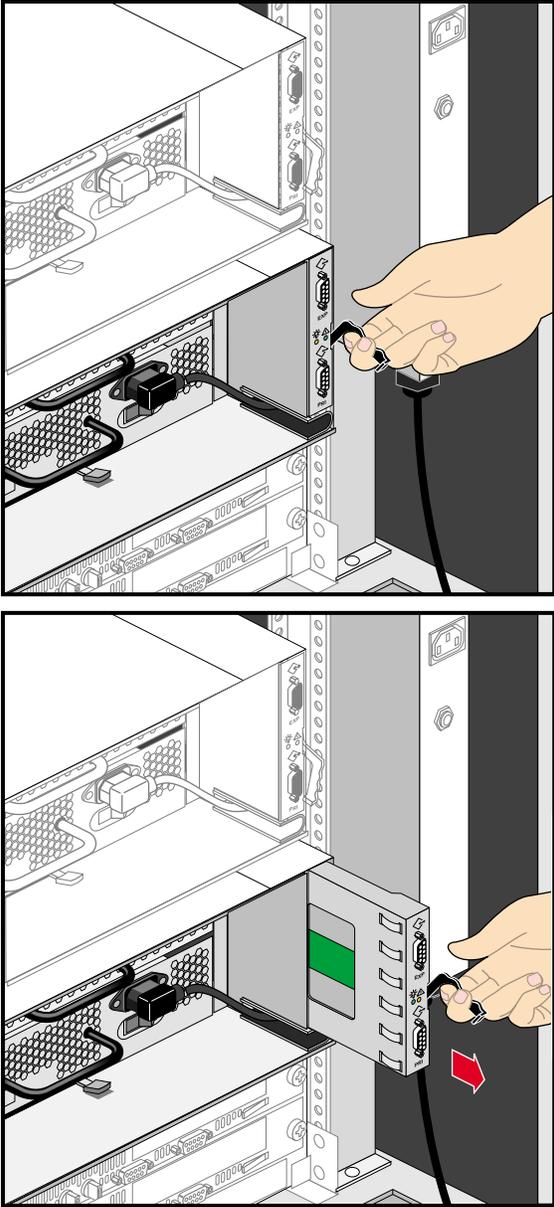

Figure 4-14 LCC Removal Example
5. Grasp the LCC and slowly pull it out of the chassis, as shown in Figure 4-14. The LCC's active and check LEDs turn off if the enclosure is powered on.